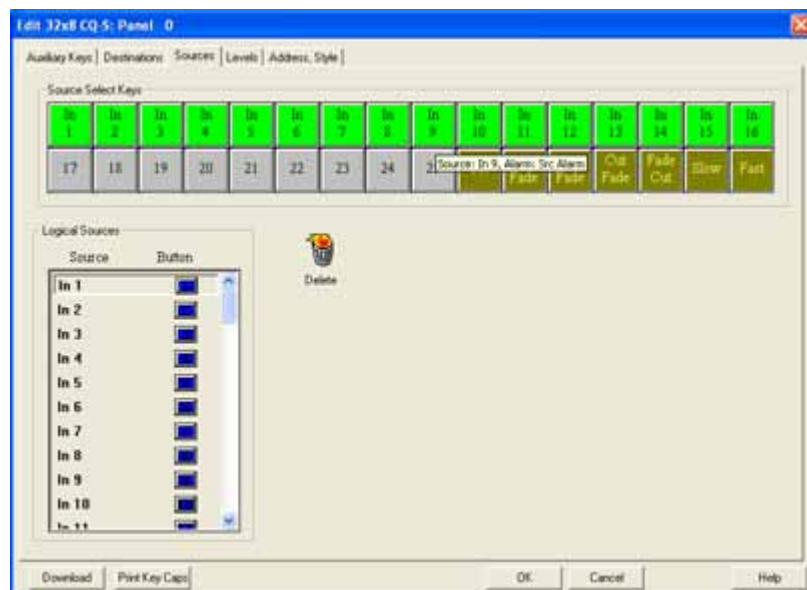

Figure 2-7 Sources Tab
- 2 Select the Sources tab. Verify that the Source tab displays push button key information as shown in **Figure 2-7**.